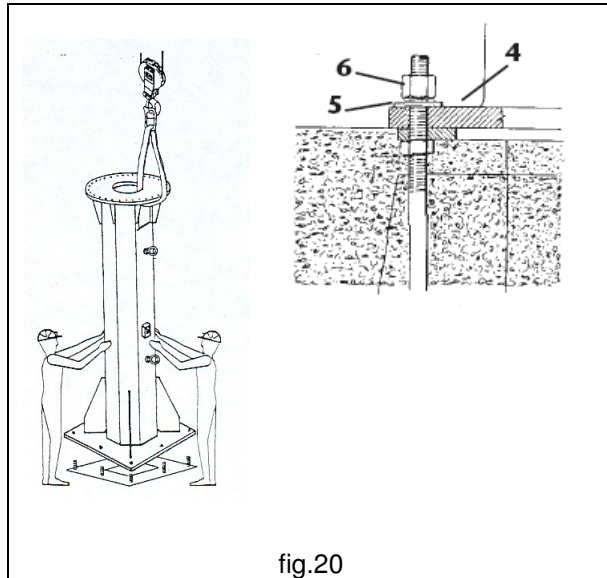

fig.20
3. Set up the column lifting it by the upper part with appropriate equipment.(fig.20)
4. Assemble it on the foundation frame positioning the base plate **4** correctly and lining up the nuts **6** subject to the interposition of the related flat washers **5**.(fig.20)